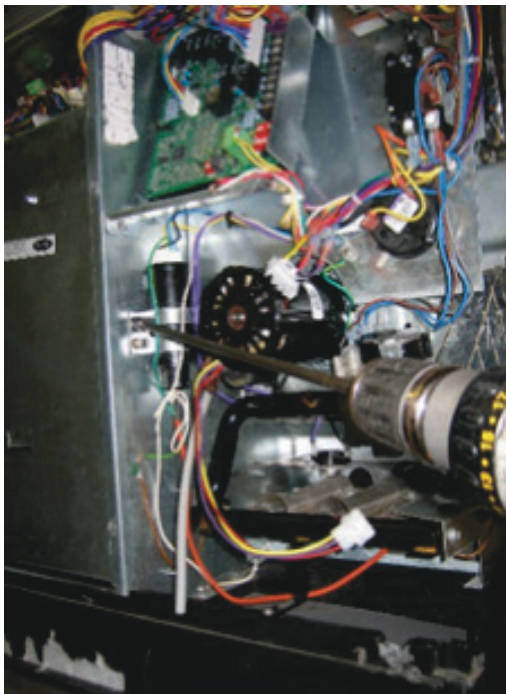

Fig. 29 – Removing Mounting Screw from Gas Manifold ^{A210076}
9. For all units remove mounting screw from gas manifold and pull Burner Assembly forward to clear Heat Shield (See Fig. 29).